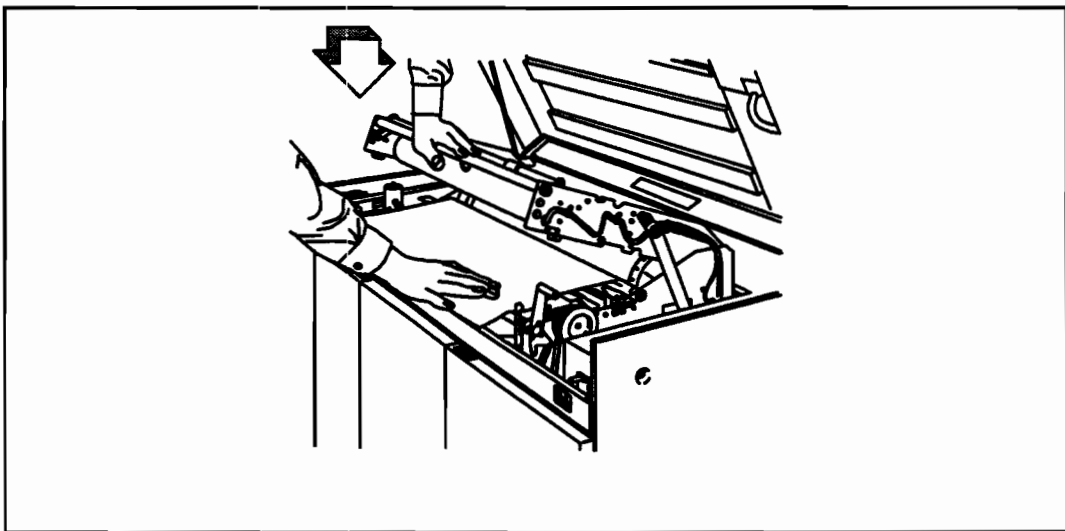

Figure 3-24. Closing the Upper Frame
11. Close the upper frame. See Figure 3-24. Ensure that both ends are latched.